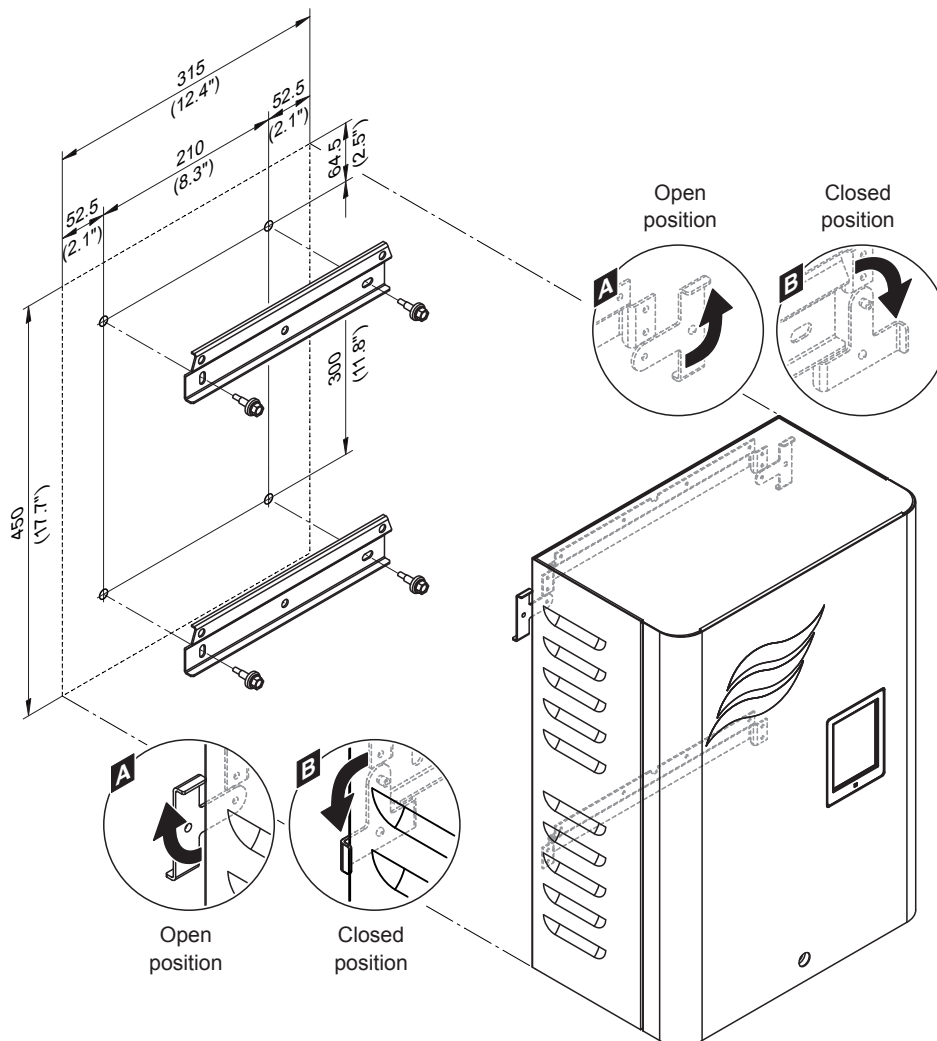

Fig. 31: Mounting the control unit of Condair ME Controls
3. Move the locking hooks on the back of the control panel to open position (see detail "A" in Fig. 31).
5. Move the locking hooks on the back of the control panel to closed position (see detail "B" in Fig. 31) in order to fix the control unit to the upper wall support.